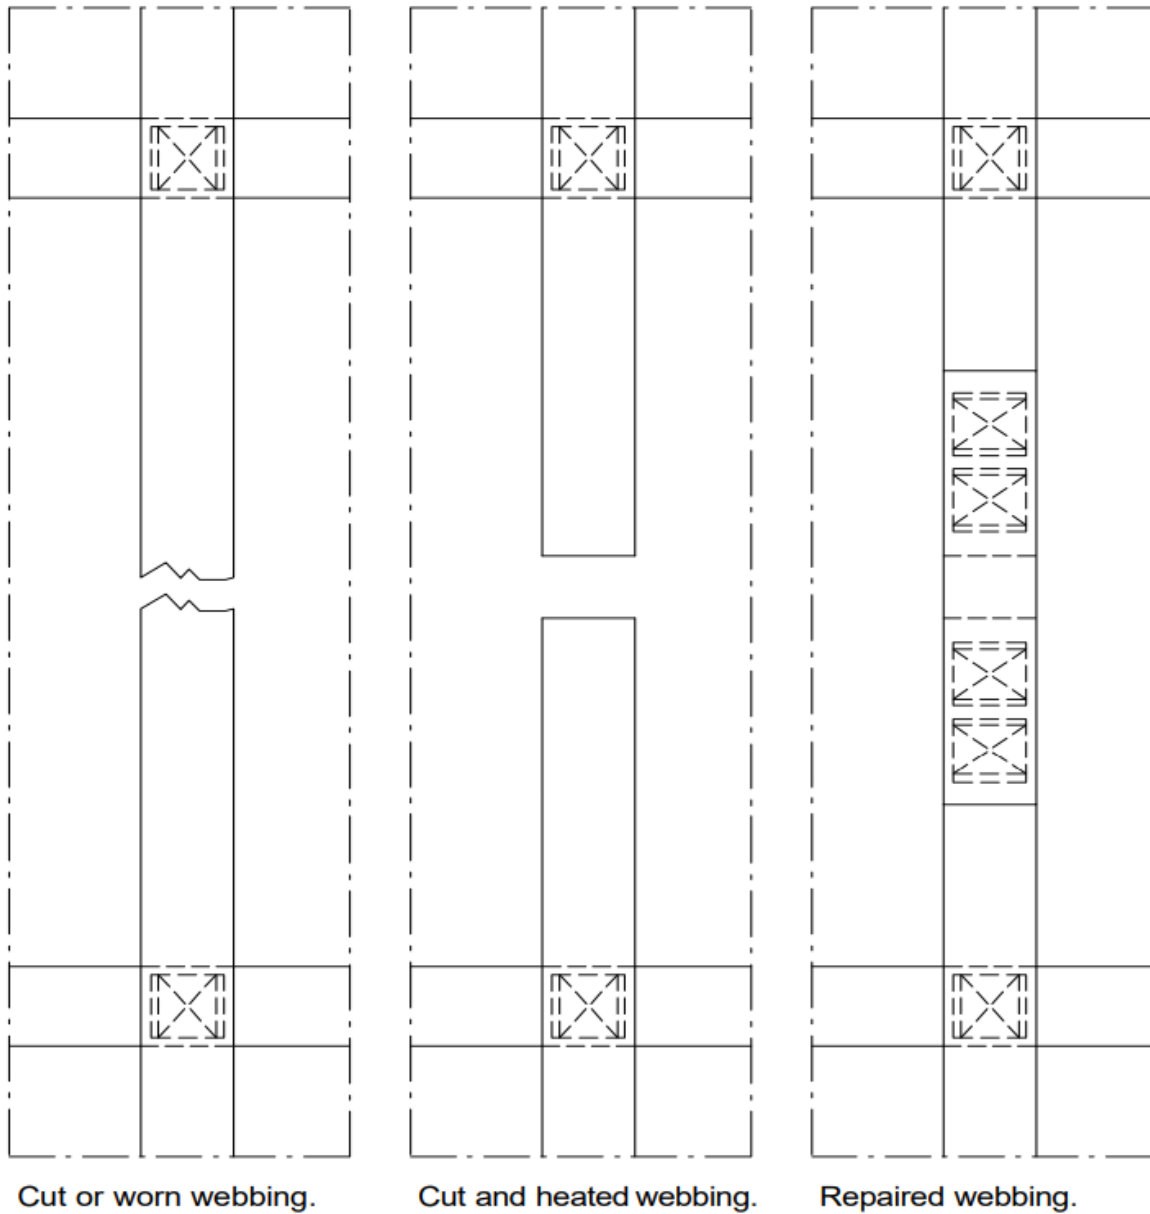

Figure 109
- (1) Cut away damaged area and heat webbing ends. (Heat is used to melt webbing to prevent further tearing.) See Figure 109.
- (2) Remove seam on the damaged or missing strap assembly, detaching strap assembly from door net.
- (3) Sew a new strap assembly on to door net.
- (1) Cut away damaged area and heat webbing ends. (Heat is used to melt webbing to prevent further tearing.)
- (3) Sew a new strap assembly on to door net. See Fig. 109 and refer to TD-810880 for sewing instructions, for material specifications refer to SB 200501.